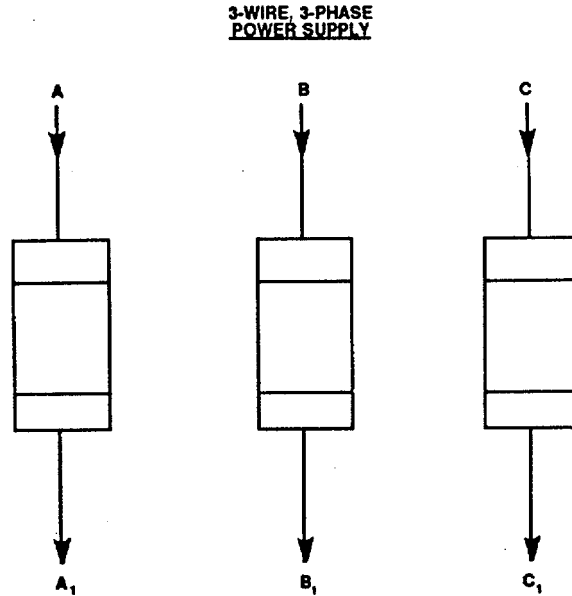

Figure 2-3. Checking Single Phase Circuit Fuses.
- 3 In a single phase circuit, turn the power ON and check between A, and G (ground) with a voltmeter (FIGURE 2-3). If no voltage is read, the A to A1 fuse is defective. Make the same check between B1, and G. If no voltage is read, the B to B1 fuse is defective.